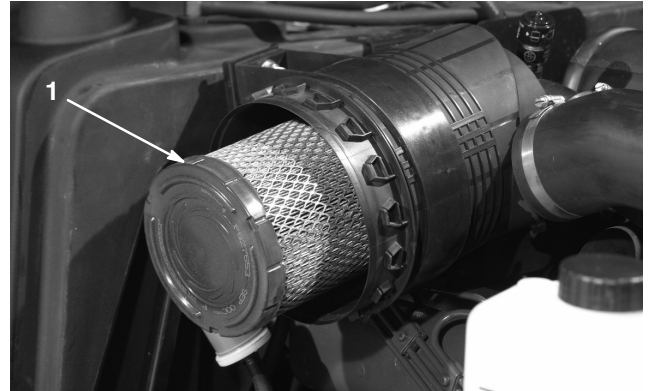

Figure 44
2. Before removing the filter (Fig. 44), use low pressure air (40 psi, clean and dry) to help remove large accumulations of debris packed between outside of primary filter and the canister. Avoid using high pressure air which could force dirt through the filter into the intake tract. This cleaning process prevents debris from migrating into the intake when the primary filter is removed.